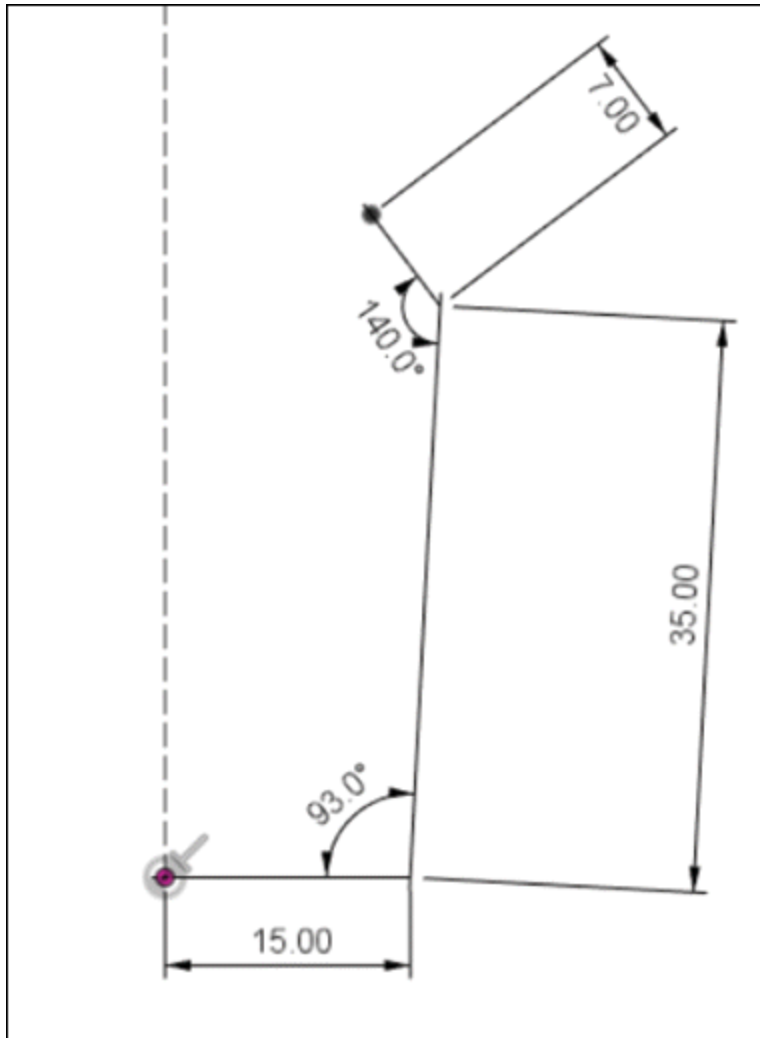

Figure-125. Creating lines with dimensions
- Move the cursor to the left, specify the value as **7** in the length input box and **140** degree in angle input box; refer to Figure-125.